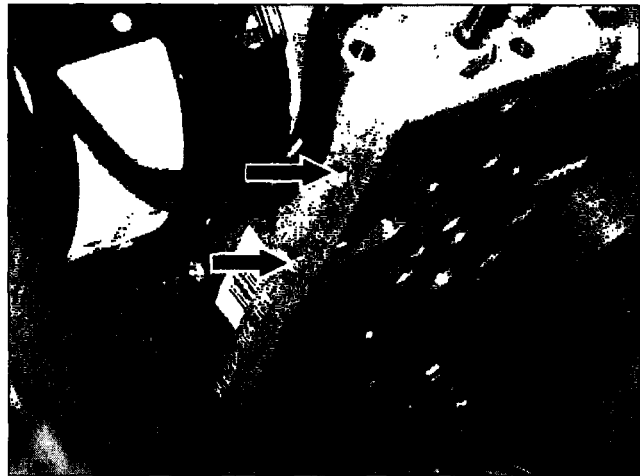

Figure 2
3. Check for bracket mounting bores (arrows Figure 2) in the SBC hydraulic unit: